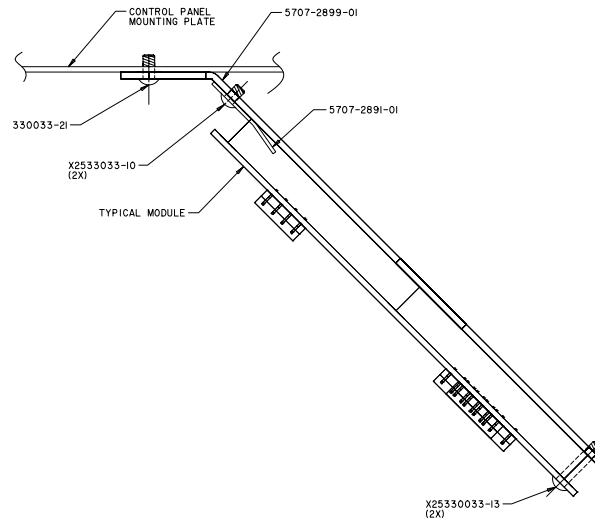

Figure 3 Detail of Module Mounting
- Using 2 #6-32 x 3/8 inch screws from the kit, install the module mounting clip for the TLCI Module as illustrated in Figure 3.
- Slide the left LCI Module mounting foot into the slotted holes on the mounting clip. Using 12 #6-32 x 3/4 inch screw from the kit, secure the module onto the mounting bracket as illustrated in Figure 3.